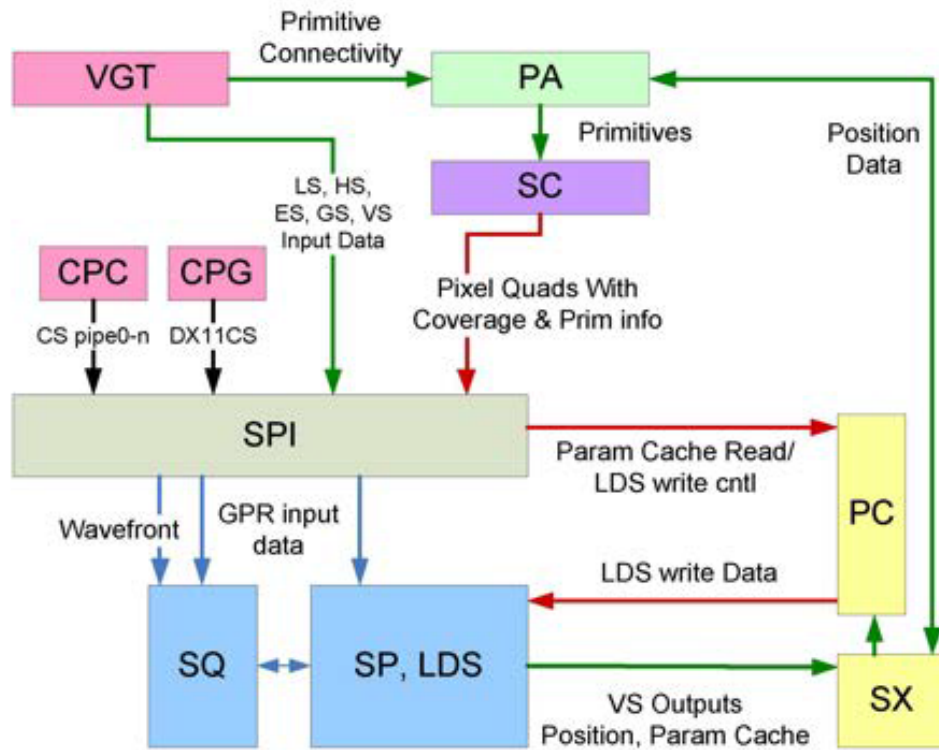

Figure 1 – SPI Chip Level Data Flow Diagram
Figure 1 shows the blocks and major data paths directly and functionally associated with the SPI.
Referencing Figure 1, for doing just vertex and pixel shading, vertex and primitive type processing are associated with the green colored lines. The VGT initially starts off sending vertex indices in the form of vsverts to the SPI and at the same time sending the primitive connectivity to the PA identifying how those vertices will get built back into primitives. The SPI buffers up the vsverts into a wavefront and once it has received a full wavefront of data, the wave transfer from the VGT will trigger the SPI to release the data to the SQ and feed associated data into the GPRs. When the vertex shader starts processing position data, typically it will send out position early to the position buffers in the SX which then allows the PA to read that position data and start building the primitives and producing those primitives which go through the Scan Converter (SC) to produce pixels. Once the SC has primitives, it will start producing pixels data which are fed to the SPI. Once the SPI has a full wavefront of pixels, it will try and send associated data into the GPRs with the wavefront to the SQ. Reads are made to copy parameter data out of the parameter cache and write it into an SPI determined range of LDS in a particular CU.
As shown in Figure 1, Compute Shader input data can come from either the CPG (GFX-CS) or the CPC (Async CS). CS waves go through the same resource arbitration and allocation as all other supported SPI wavefront types.